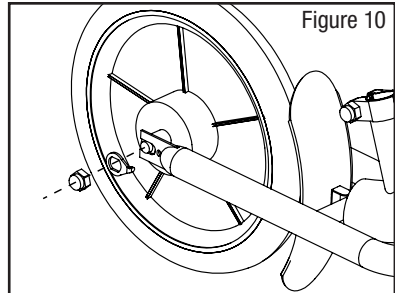

Figure 10
- Guide rear wheel into rear fork slots, position axle in rear fork slots, make sure washers and nuts are positioned outside of rear fork legs (Figure 10). Make sure the safety tabs on the retaining washers are seated in the small safety locking holes on the frame, as shown in Figures 10 and 11.